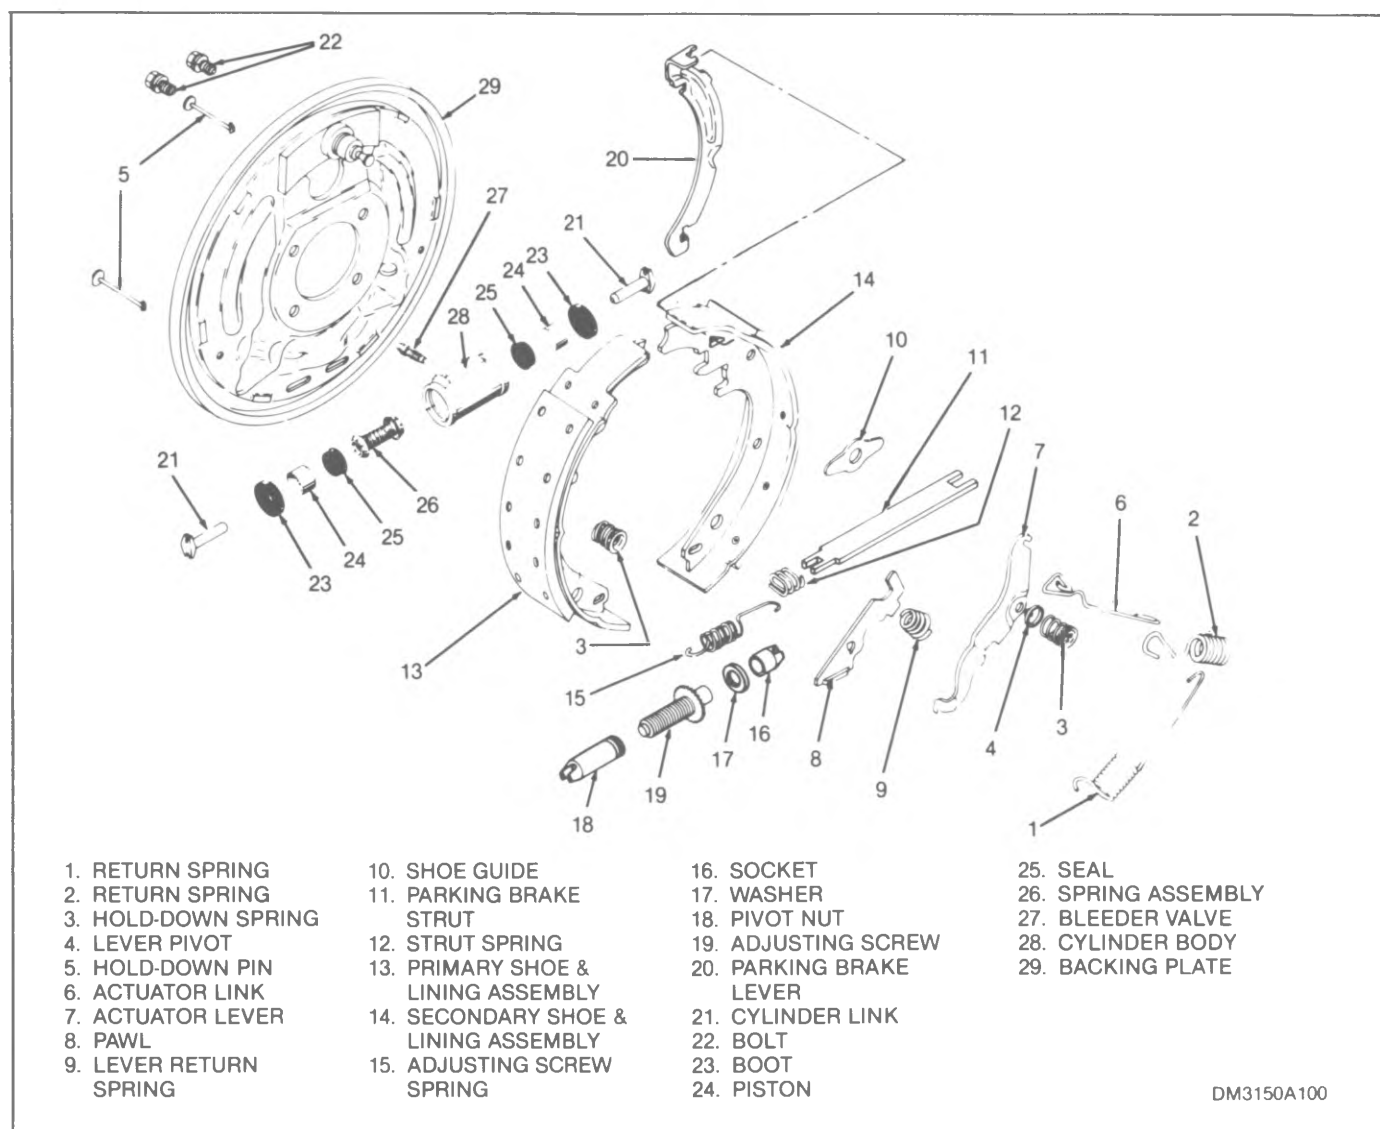
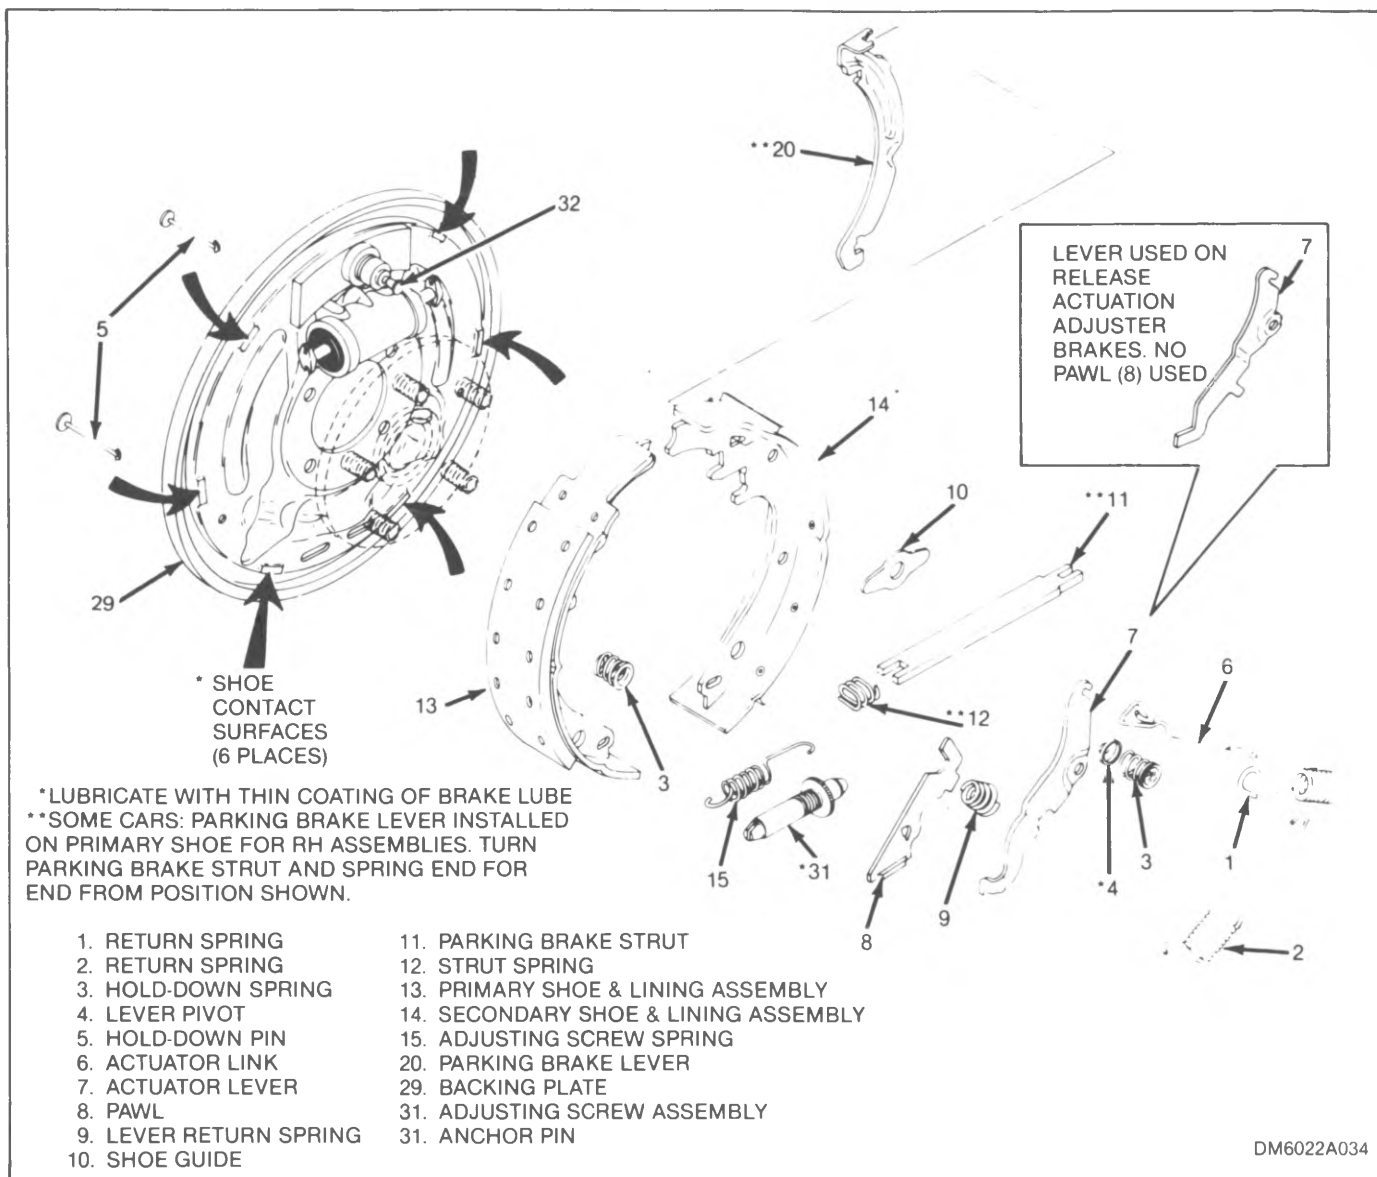
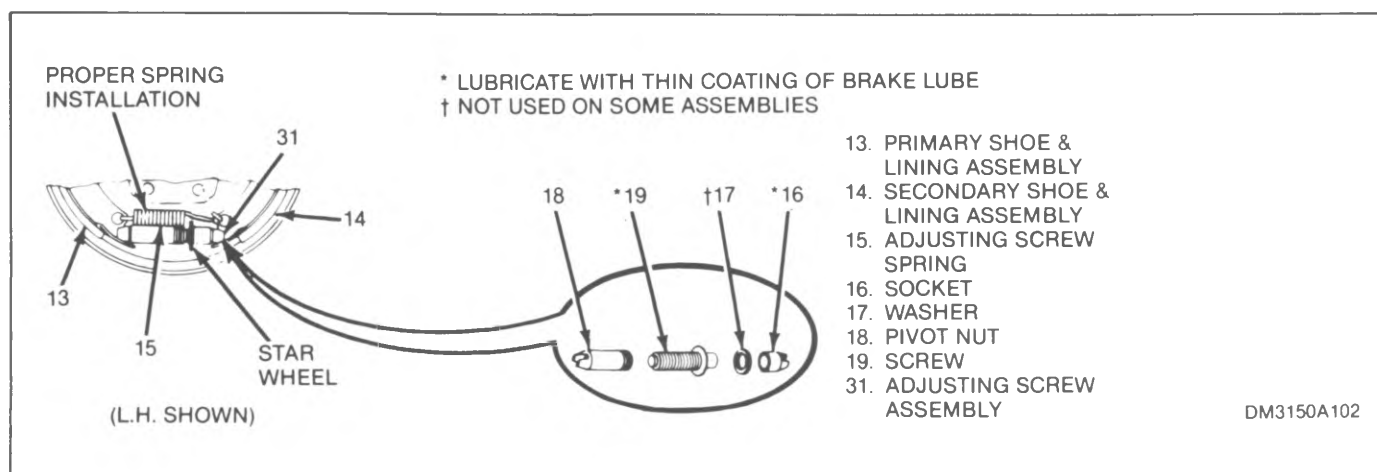

Figure 3-12. Conventional Drum Brake With Apply Actuated Adjuster
Figure 3-14. Brake Components
Figure 3-15. Adjusting Screw and Spring
3-19. CONVENTIONAL DUO-SERVO DRUM BRAKE. Refer to figures 3-12, and 3-13 for identification of parts for the conventional drum brakes. The automatic adjuster actuator lever variations shown are described in paragraphs 1-8 thru 1-10. After removing brake drums (refer to paragraph 3-14), proceed as follows to remove and replace brake shoes and hardware (see figure 3-14):
16. Disassemble the adjusting screw assembly (see figure 3-15) and clean parts in clean denatured alcohol. Make sure that the adjusting screw threads into the pivot nut over its complete length without sticking or binding. Check that none of the adjusting screw teeth are damaged.
17. Apply brake lube to adjusting screw (19) threads, inside diameter of socket (16) and socket face. Adequate lubrication is achieved when a continuous bead of lubricant is produced at open end of pivot nut (18) and socket after parts are assembled and threads fully engaged. Install washer (17) if found on unit at disassembly.
19. Install parking brake lever (20, figure 3-14) by hooking lever tab into slot in secondary shoe (14).
20. Install adjusting screw assembly (31) and spring (15) between shoes (13 and 14) as shown in figure 3-15. Coils of spring must not be over star wheel. Left and right hand springs are different. Do not interchange.
21. Spread brake shoes (13 and 14) to clear axle flange, connect parking brake cable to lever (20), and install parts on backing plate (29).
22. Install parking brake strut (11) and strut spring (12) by spreading shoes (13 and 14) apart.
NOTE: For right rear brakes with rear entry parking brake cable and parking brake lever (20) installed on primary shoe (13), turn strut (11) and spring (12) end for end from that shown in figure 3-14.
23. Make sure strut (11) is properly installed. End without spring (12) engages parking brake lever (20). End with spring engages opposite brake shoe.
24. Install shoe guide (10).
25. Install actuator lever (7), pawl (8) (where used) and lever return spring (9).
26. Lubricate lever pivot (4). Install hold-down pins (5), lever pivot and hold-down springs (3).
27. Install actuator link (6) on anchor pin (32).
28. Lift up actuator lever (7) and hook link (6) into lever.